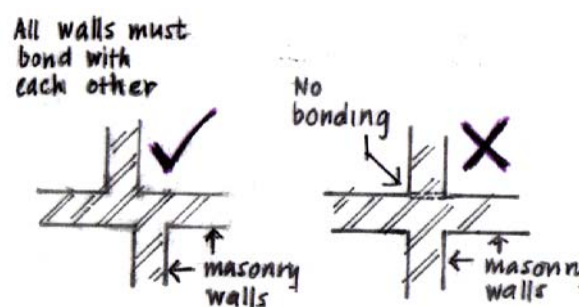

Fig 8 -Placement of cross walls
- Made sure that intersecting masonry walls bond truly with each other by proper placement of cross walls (See fig. 8)